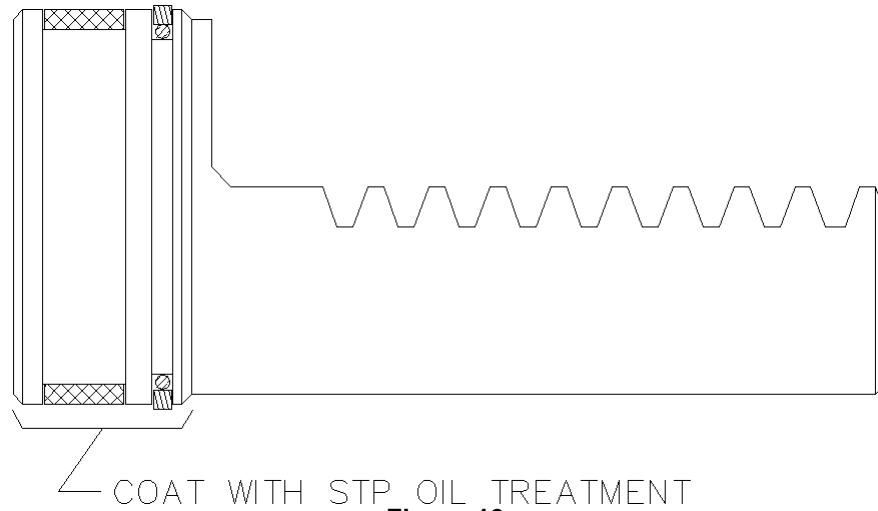

Figure 13.
5. Coat the head portion of the racks (2) (Figure 13) with STP Oil Treatment. Install the racks, head portion up with the teeth facing the flanges of the actuator body, into the dual set of bores in the body. Simultaneously slide the racks into the bores so that the racks mesh with the pinion in the same position. Rotate the pinion shaft to engage the racks into the pinion.